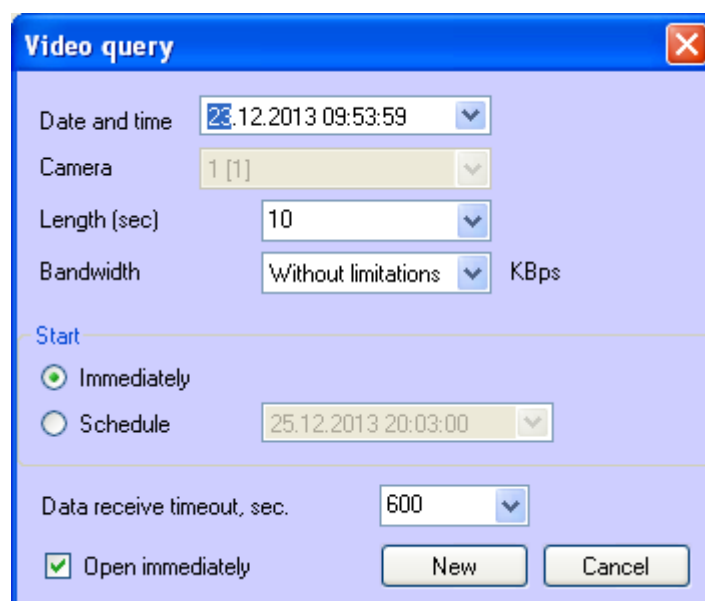

Fig. 5.5—1 Video query
4. If **Video query** item is selected, the **Video query** dialog box appears (Fig. 5.5—1). You can also call this dialog box by clicking **Video** button in the **Query** group.